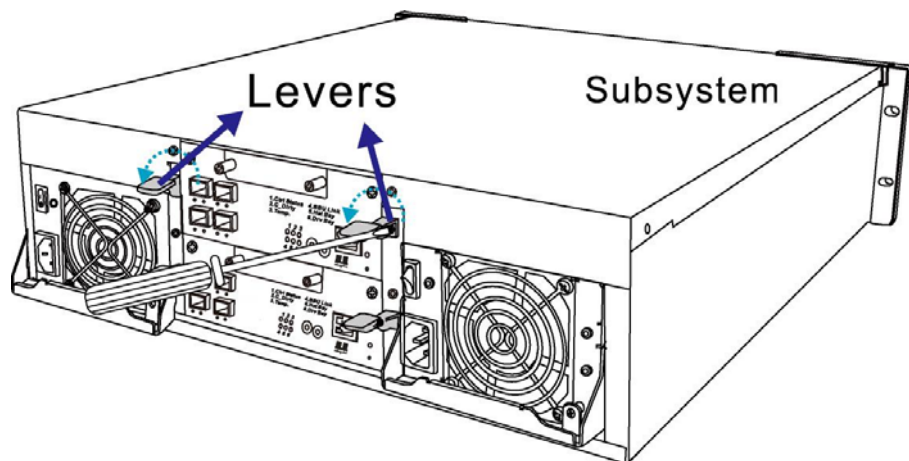

Figure 5-1: Removing the Controller Retention Screws
**Step 3.** *Remove the screws* underneath the ejection levers. (See *Figure 5-1*)